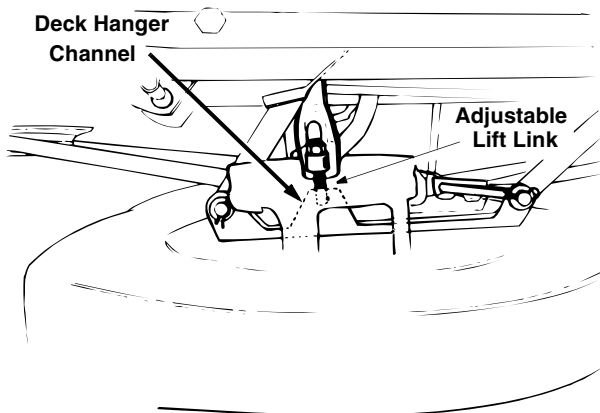

Figure 8
- Pull the adjustable lift link out of the deck hanger channel. See Figure 8. Turn the adjustable lift link up or down as necessary to level the deck. Usually only one or two turns are needed.